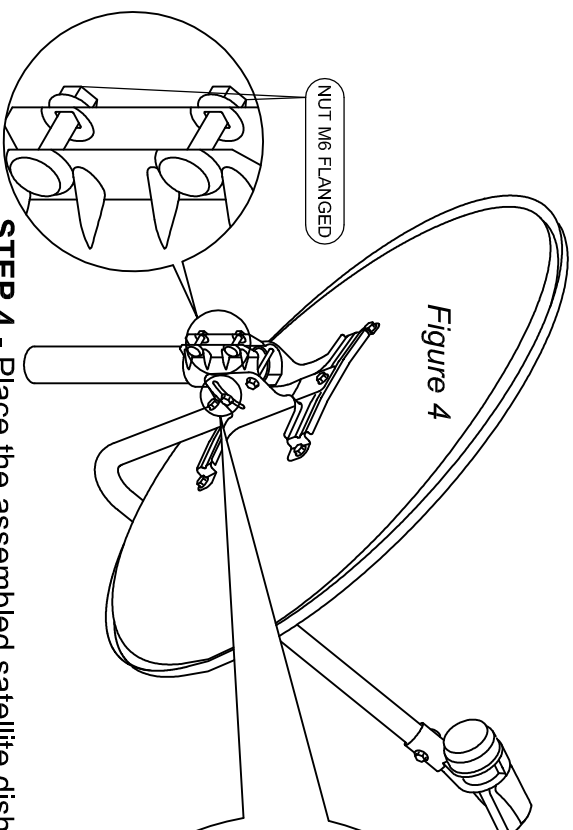

Figure 4
STEP 4 - Place the assembled satellite dish on to the top of the mast (43.0 - 45.0mm only) to rest on the top bolt & gently nip up 2 flange nuts. Refer Figure 4